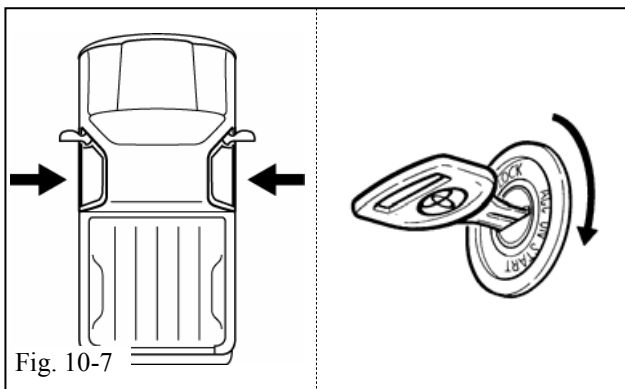

Fig. 10-7
- (h) Verify that all doors are closed. (Fig. 10-7)
- (1) Do not close the Hood.
- (i) Insert the Key into the ignition and turn it to the "ON" position. (Fig. 10-7)
- (j) Turn the Key to the "OFF" position and remove it from the ignition. (Fig. 10-7)